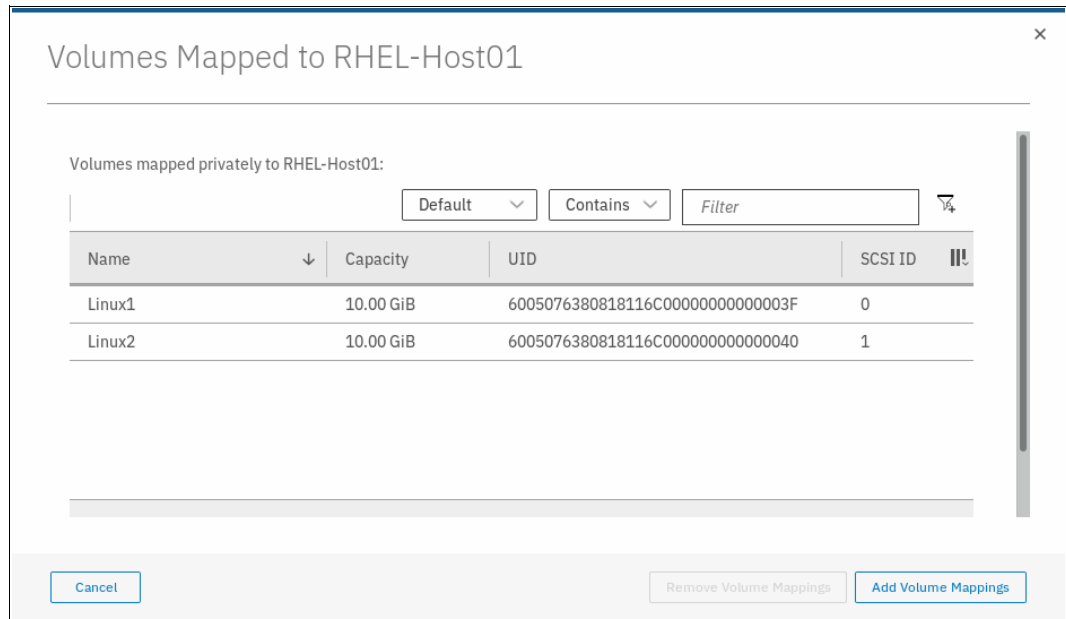

Figure 6-42 Volumes mapped to a host
- A pop-up window opens that shows volumes that are mapped to the selected host, as shown in Figure 6-42.